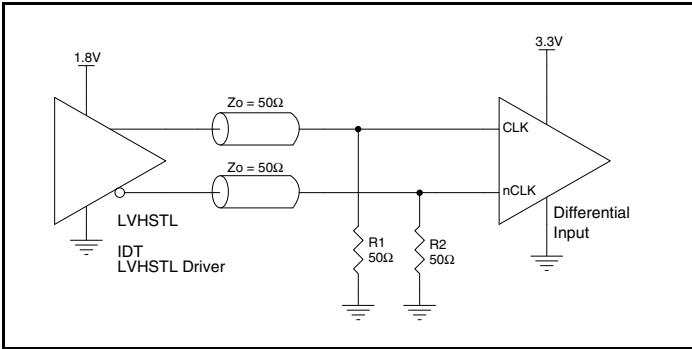

**Figure 2. Single-Ended Signal Driving Differential Input**
*Figure 2* shows how the differential input can be wired to accept single ended levels. The reference voltage  $V_{REF} = V_{DD}/2$  is generated by the bias resistors  $R1$ ,  $R2$  and  $C1$ . This bias circuit should be located as close as possible to the input pin. The ratio of